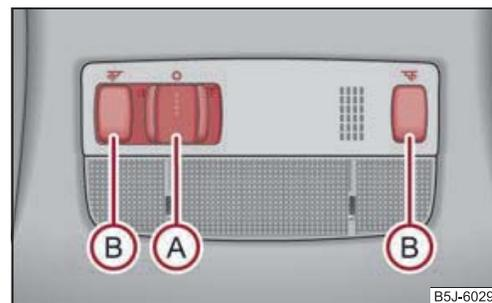

Fig. 40 Interior lighting - version 1
- Press the switch **(A)** in the direction of the centre of the light, the symbol  ⇒ page 49, fig. 40 appears.
- Press on one of the switches **(B)** ⇒ page 49, fig. 40 in order to switch the right or left reading light on or off.